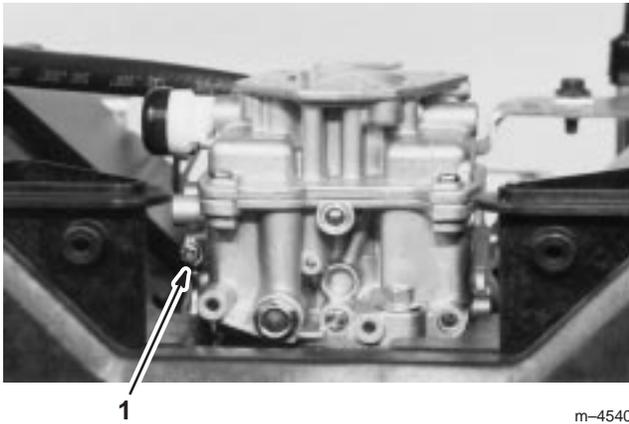

Figure 17
4. Place the throttle control into the "idle" or "slow" position. Turn the low idle speed adjusting screw in or out, to obtain a low idle speed of 1400 RPM ( $\pm 75$  RPM). Check the speed using a tachometer (Fig. 17).